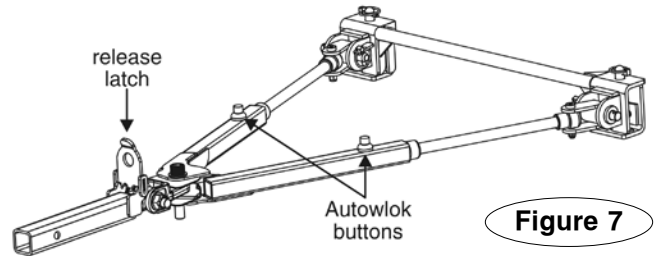

Figure 7
Attach the tow bar so that the Autowlok buttons and the release latch (Figure 7) are pointing up. Components of the tow bar may be damaged if the tow bar is attached with the release latch and the Autowlok buttons pointing down.
3. Press down on the Autowlok buttons (Figure 7) to release the locking mechanisms.